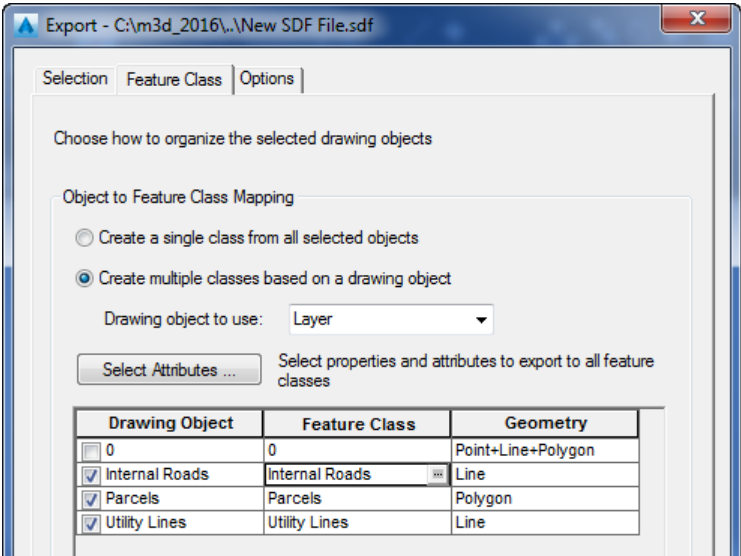

Figure 2-39 The partial view of the *Export* dialog box showing the browse button displayed in the *Internal Roads* cell
14. Next, click on the **Internal Roads** cell of the **Feature Class** column in the table; a browse button is displayed in the cell, as shown in Figure 2-39.